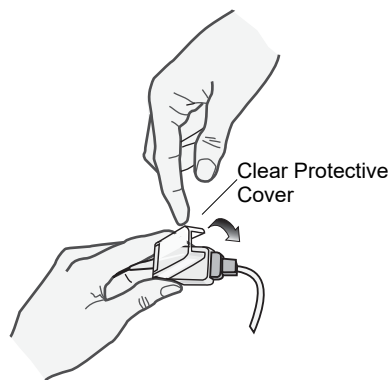

Figure 10-2 Lower Plastic Cover Over Cable Connection
5. Lower the clear plastic cover over the connection to secure it (see Figure 10-2).